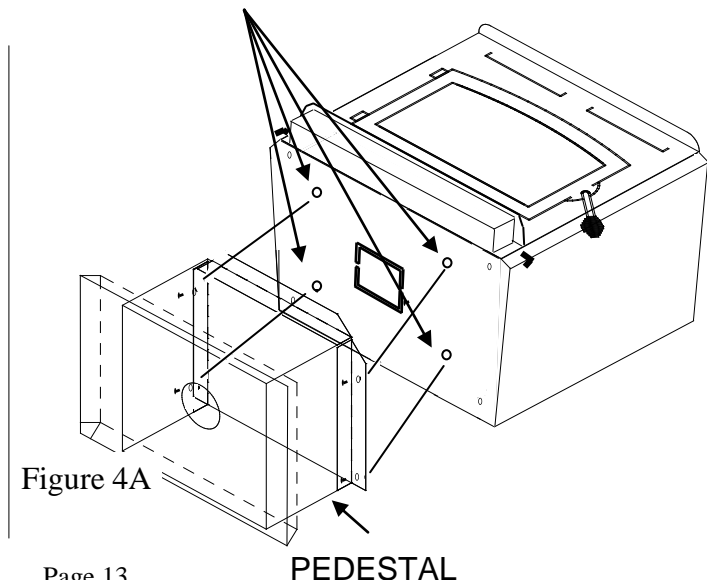

Figure 4A
6. **(Pedestal Kit):** If pedestal kit is being used and out side air is required for residential free standing installation see page 25, *Out Side Air Installation*. Open freestanding kit and obtain stand. Place stand against bottom of heater (angle side to heater).Center stand front to rear and also center stand left and right. Mark screw locations on bottom of stove through outer holes of stand mounting angles. Set stand aside and drill four 7/32" holes in heater bottom. Then mount stand to bottom of heater with screws provided. (See Figure 4A).
7. Obtain four (4) 3/16" self-tapping screws and secure stand to heater.